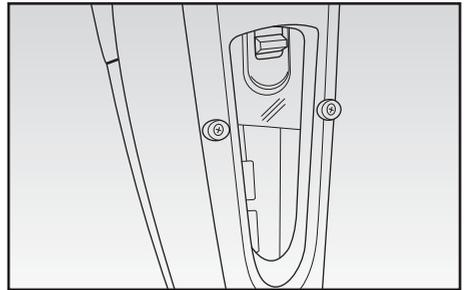

Fig. 11
- From the back of the appliance, check whether the dust container (F) is full up to MAX level (Fig. 11).